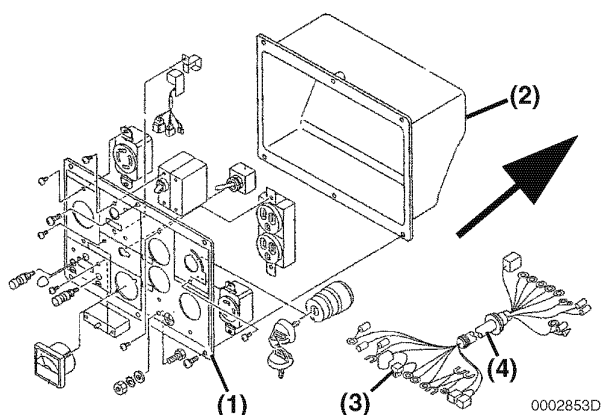

Figure 7-44
2. Reconnect any wiring harness and all terminals (**Figure 7-44, (3)**), outlets, switches, meters and related components that were removed or replaced.
3. Pull the wiring harnesses (**Figure 7-44, (4)**) through the panel box (**Figure 7-44, (2)**) in the direction of the arrow and install the panel box.
4. Install the control panel (**Figure 7-44, (1)**) to panel box.